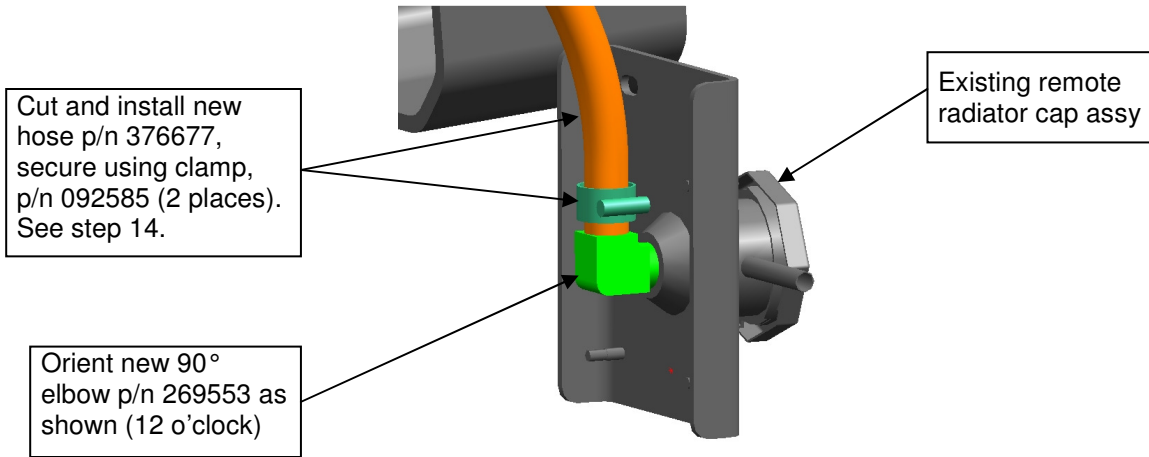

Figure 5: Remote Radiator Fitting & Hose Installation
13. Install new 90° elbow (NF p/n 269553) as per Step 9, into the threaded remote radiator plate assembly port. Locate and orient straight up (12 o'clock), See Figure 5.